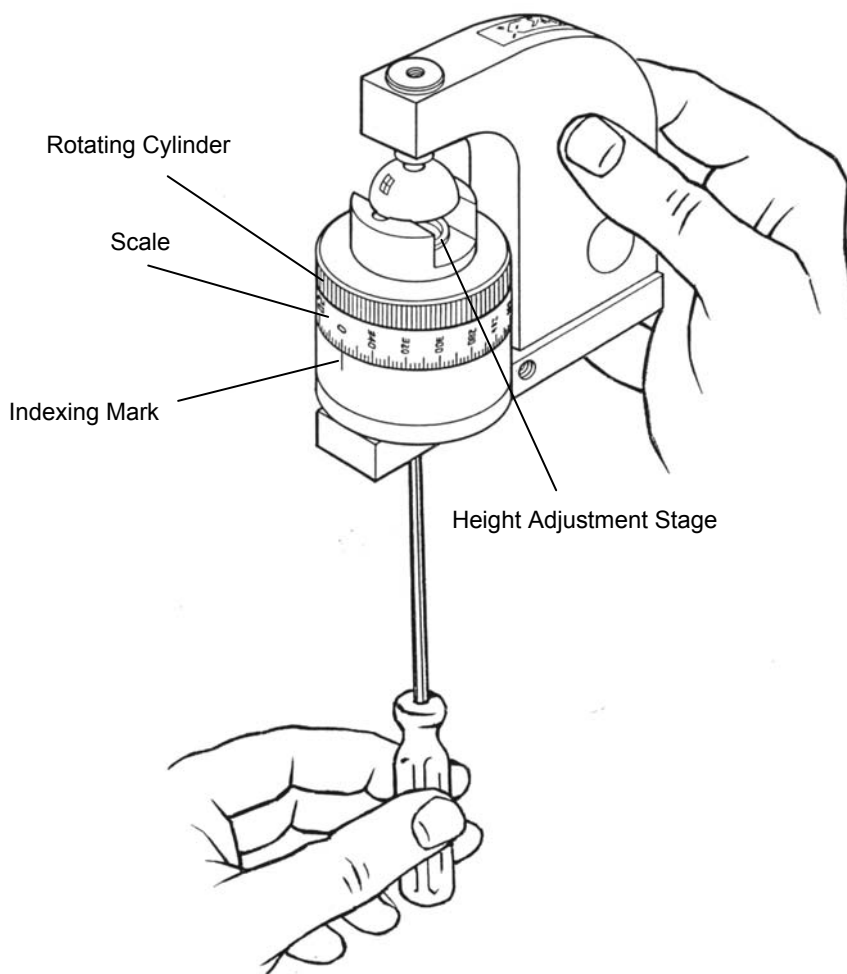

Figure 19 • The Ming-Sung™ ATR Rotator
- Insert the supplied 1/8" ball driver in the hole in the bottom of the Ming-Sung™ ATR Rotator (Figure 19).